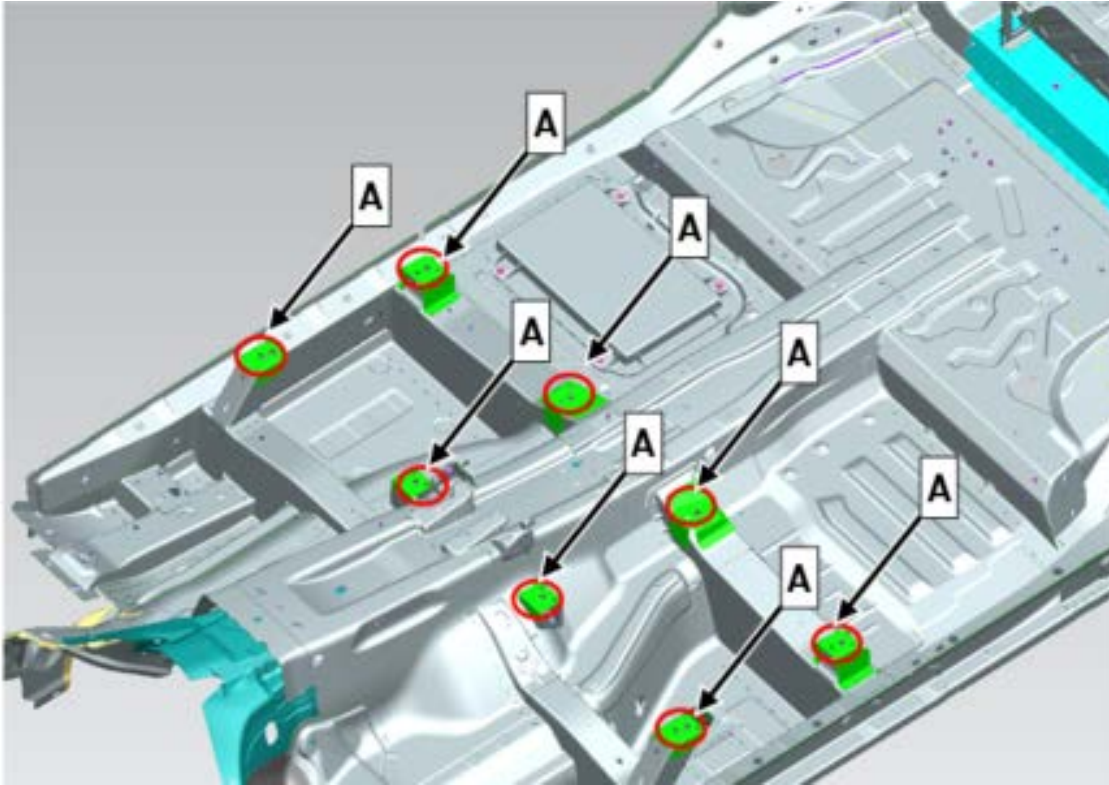

Figure 1
2. Check all eight (x8) bolting points for Helicoil thread insert (**A, figure 1**).